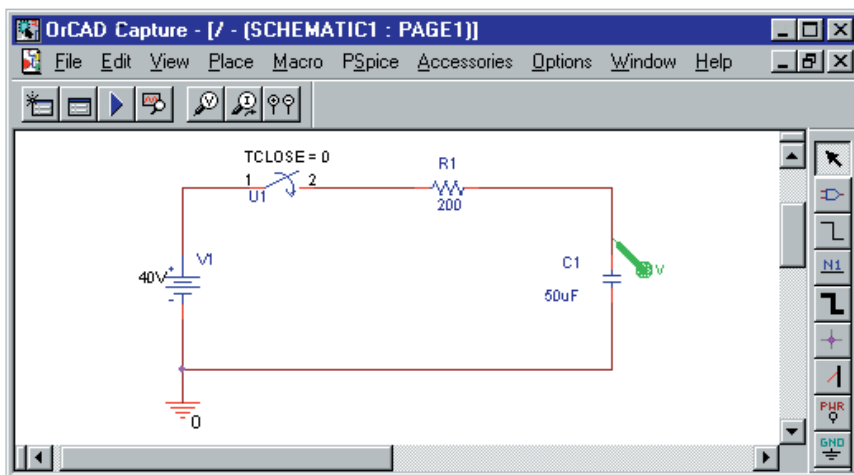

FIGURE 11–46 PSpice example. The voltage marker displays voltage with respect to ground, which, in this case, is the voltage across C_1 .
- Click the Run icon. When simulation is complete, a trace of capacitor voltage versus time (the green trace of Figure 11–47) appears. Click Plot (on the toolbar) then add Y Axis to create the second axis. Activate the additional toolbar icons described in Operational Note 5, then click the Add Trace icon on the new toolbar. In the dialog box, click I(C1) (assuming your capacitor is designated C_1), then OK. This adds the current trace.